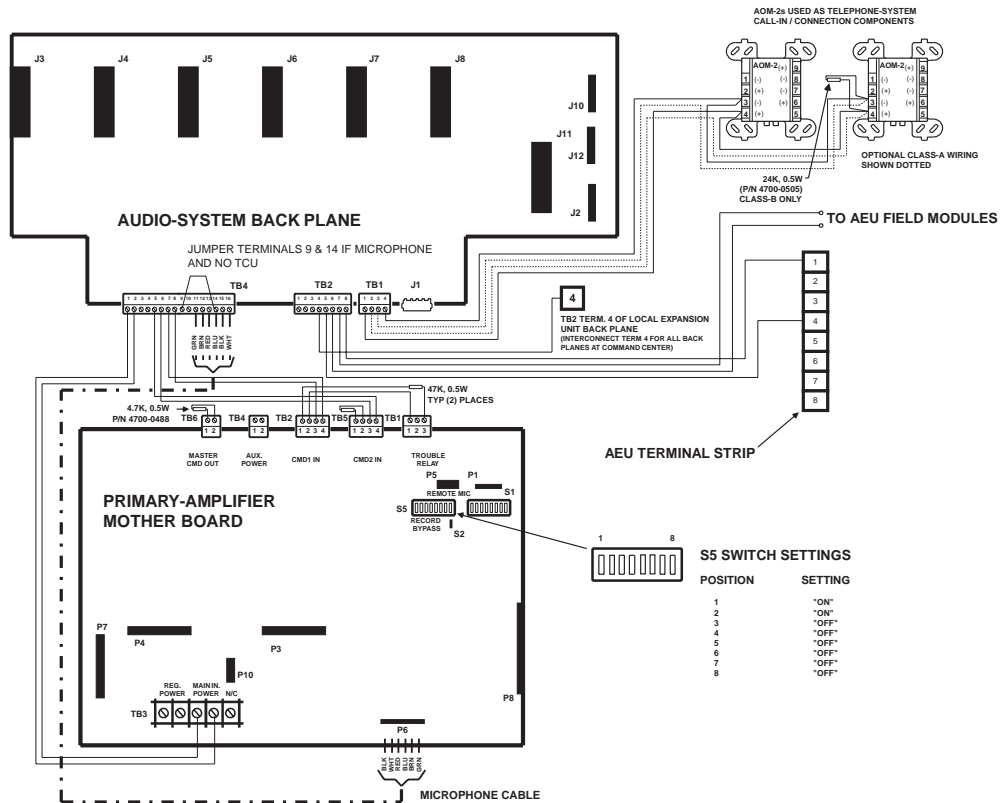

Figure 2-5
- Figure 2-5 shows the same system with auxiliary tone.